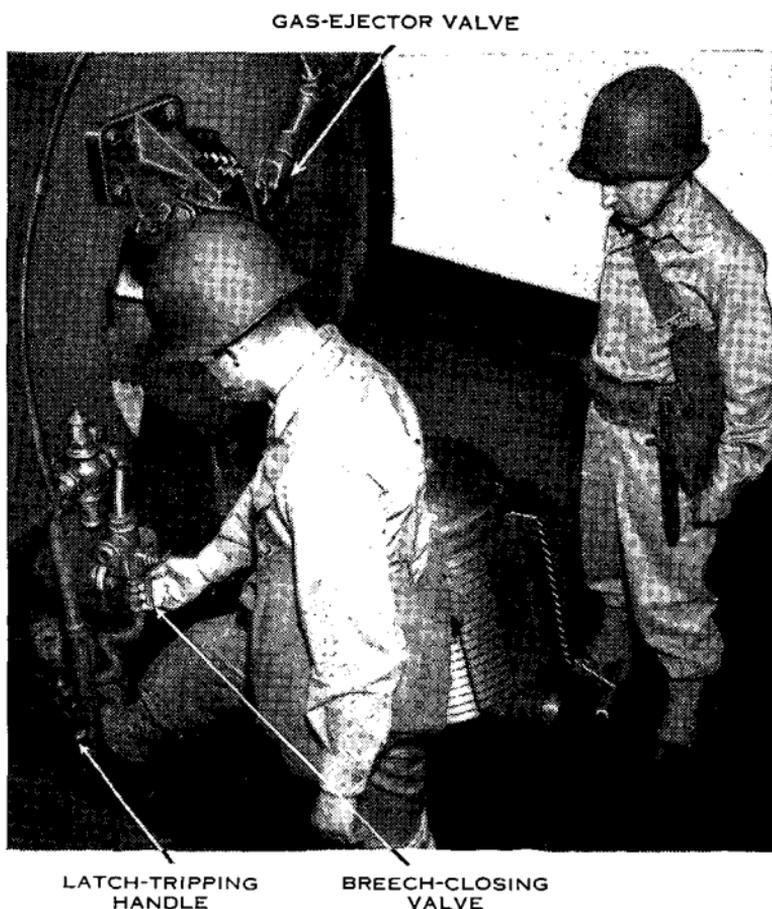

Figure 11. Closing the breechblock.
b. To close the breech by air pressure (fig. 11), No. 2 first kicks the tripping handle of the holding-down latch with his right foot and then pulls out the handle of the breech-closing valve. The air pressure, acting on the plunger rod of the closing mechanism, raises the breechblock into the breech recess. The cam rollers, attached to the breech-